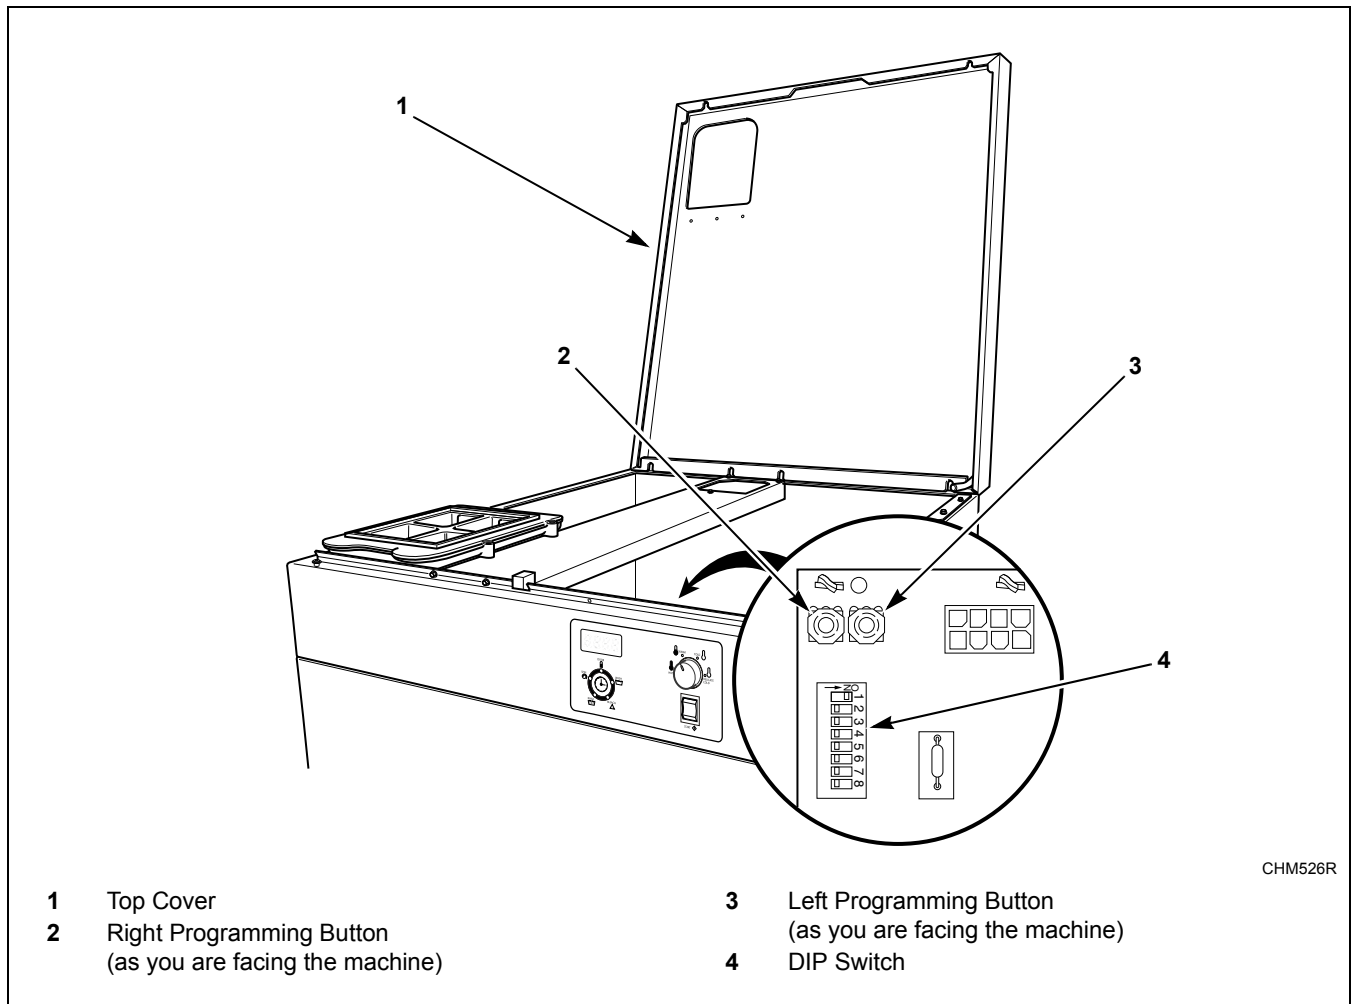

Figure 3
1. To access the DIP switch, open the machine's top cover. Refer to *Opening the Top Cover* and *Figure 3*.
2. There are two buttons on the back of the control. Refer to *Figure 3*. Press the Right and Left Programming buttons at the same time.